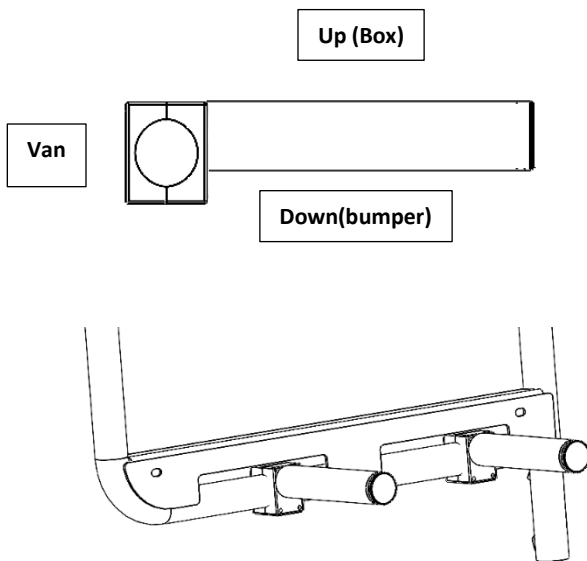

Figure 19
29. If mounting a box is desired, grab your included 8" support posts [350662]. Unscrew the bolts holding the pipe clamp together and place the posts facing out on the bottom of the pipe of the base unit. Adjust the posts so that they are level with the van and evenly spaced over. Tighten the pipe clamp support posts down. Figure 19 :post positioning
Note: make sure the posts are clamped on the base unit in this position shown in the picture above . Also make sure that the post is square to the base unit for proper fitment of the box. See figure 19